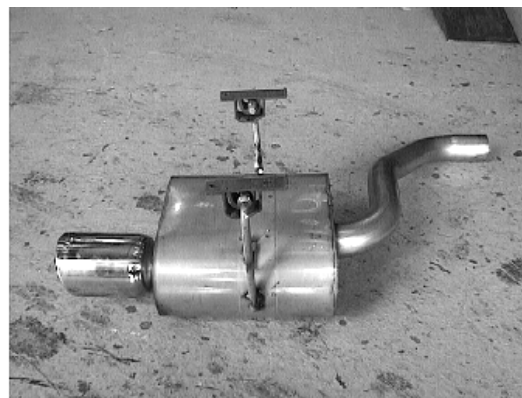

Figure 8
4. Install rubber brackets as shown in figure 8 on the hangers of rear muffler assembly.